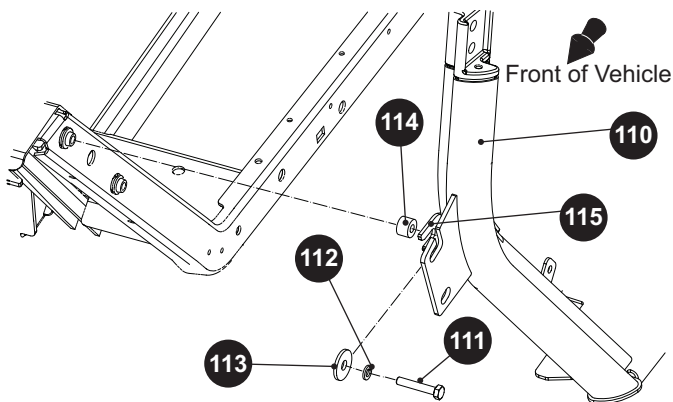
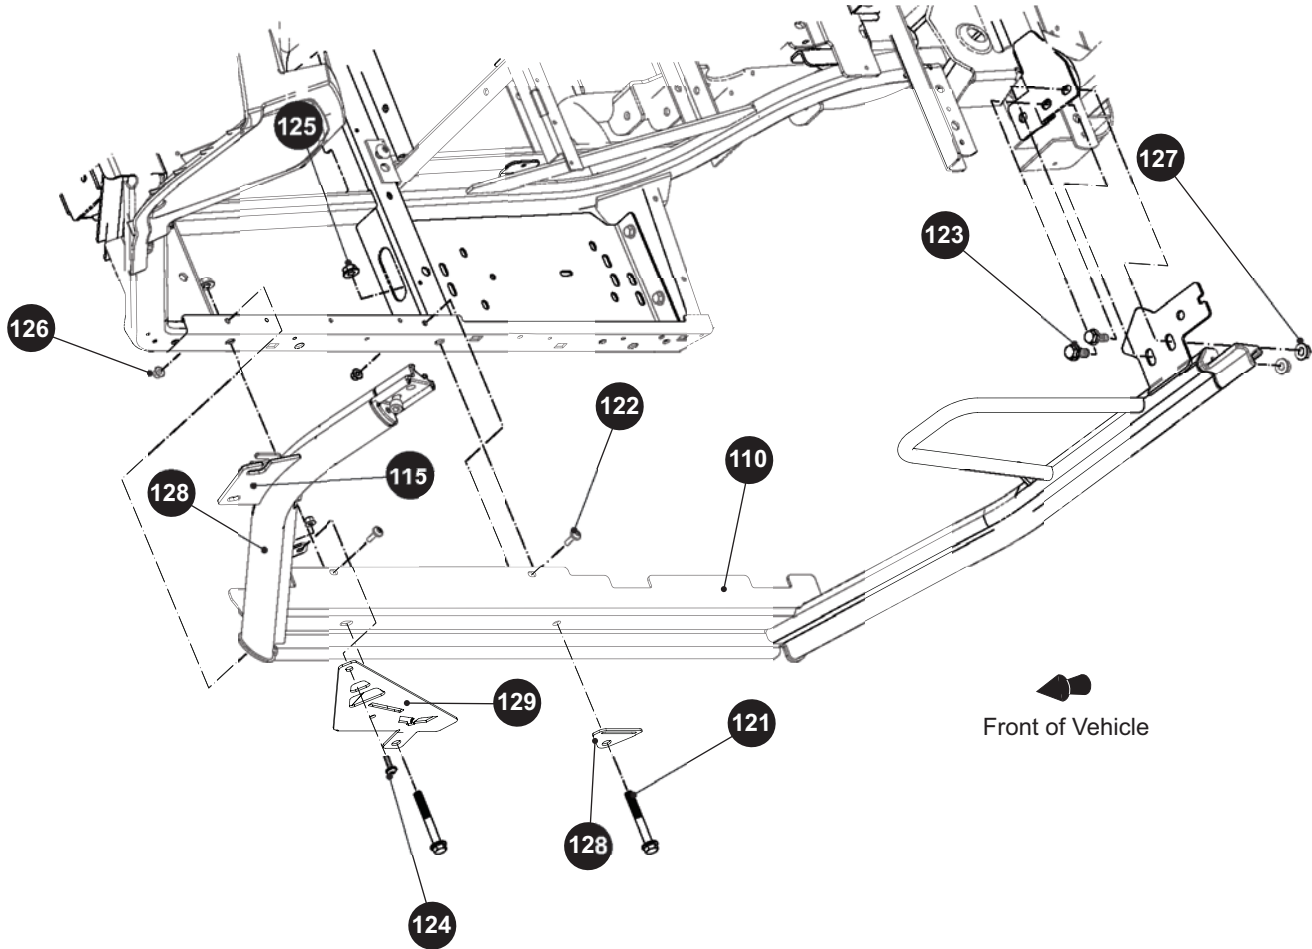

Fig. 13 Lower OPS Weldment (Upper Fastening)
Fig. 14 Lower OPS Weldment
6. Loosen, but do not remove, the bolt (111) that secures the upper portion of the lower OPS weldment (110) (Ref. Fig. 13).
12. Lift the rear of the lower OPS weldment (110) and slide it toward the rear of the vehicle to release the front bracket (115) from the bolt (111) (Ref. Fig. 13) (Ref. Fig. 14).
7. Remove the top bolt (124) from the restraint panel (129).
8. Remove the two lock nuts (125), bolts (121), restraint panel (129), and bracket (128).
9. Remove the lock nuts (126) and bolts (122).
10. Remove the lock nuts (127) and bolts (123) securing the rear of the lower OPS weldment (110) (Ref. Fig. 14).